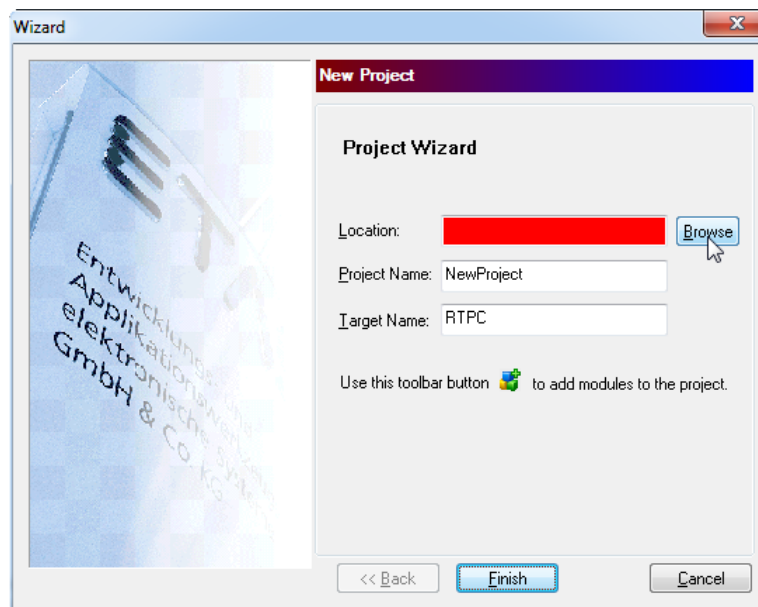

Figure 25. Create a new LabCar Project.
1. From the menu of LabCar Operator select **File -> New Project** (Figure 25) to make a new project.